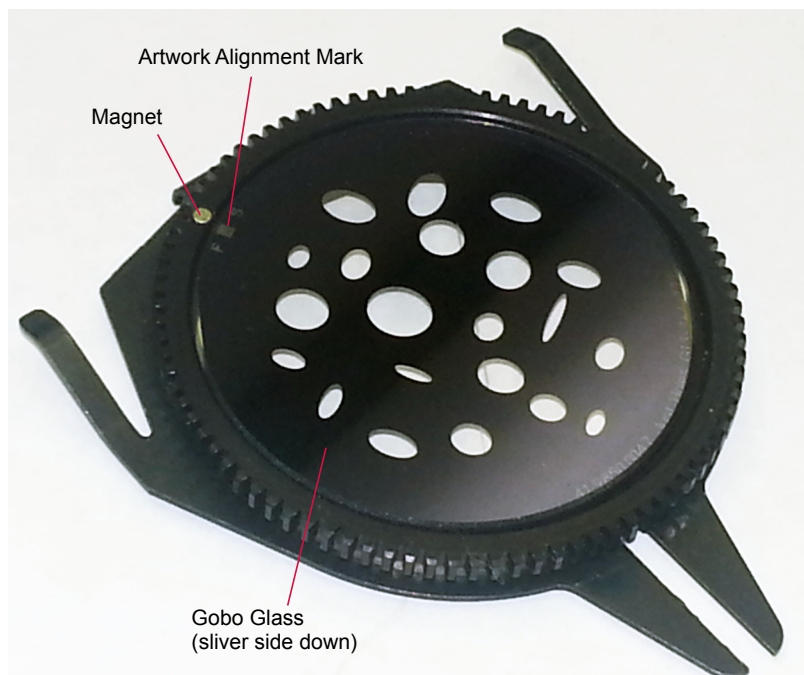

Figure 3: Installing Gobo Glass / Alignment
Step 4. Place glass in carrier, silver side down (black side up) as shown in **Figure 3**. If there is an alignment mark on the glass, align it with the carrier's magnet. (Gobos by other vendors may not include an alignment mark. Extra care must be taken to ensure consistent alignment from gobo to gobo.)